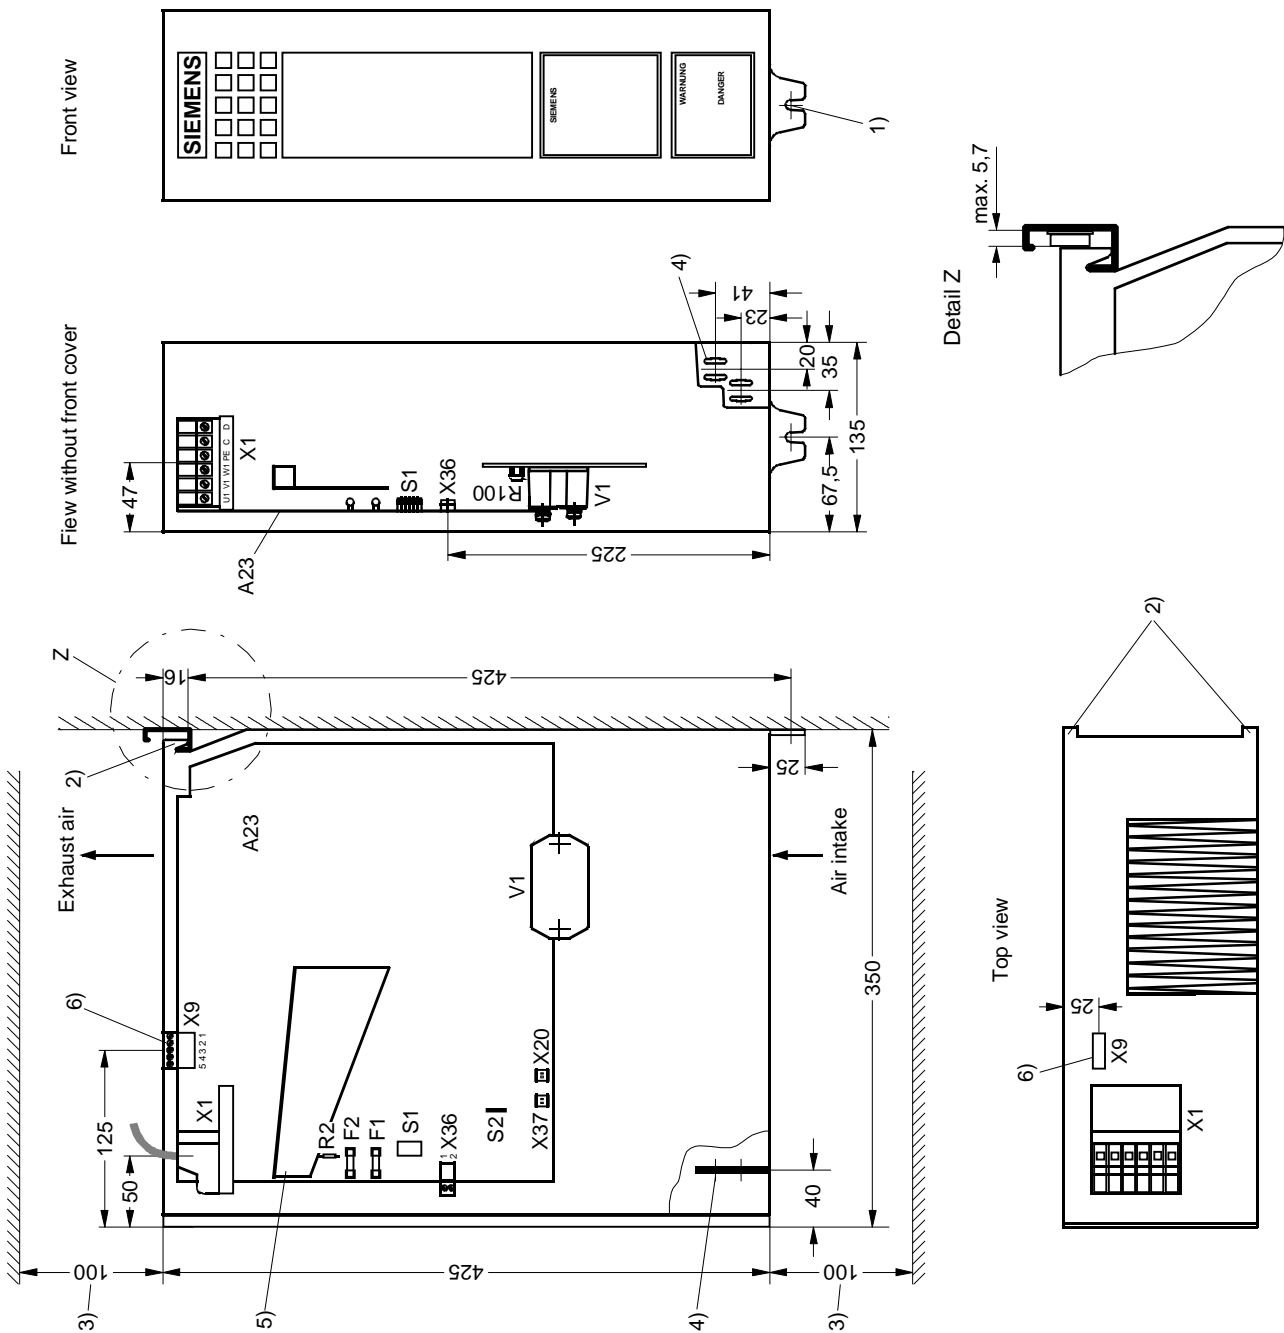

Figure 2.2 Size B
- ◆ dimension drawing (figure 2.2 for size B, figure 2.3 for size C).